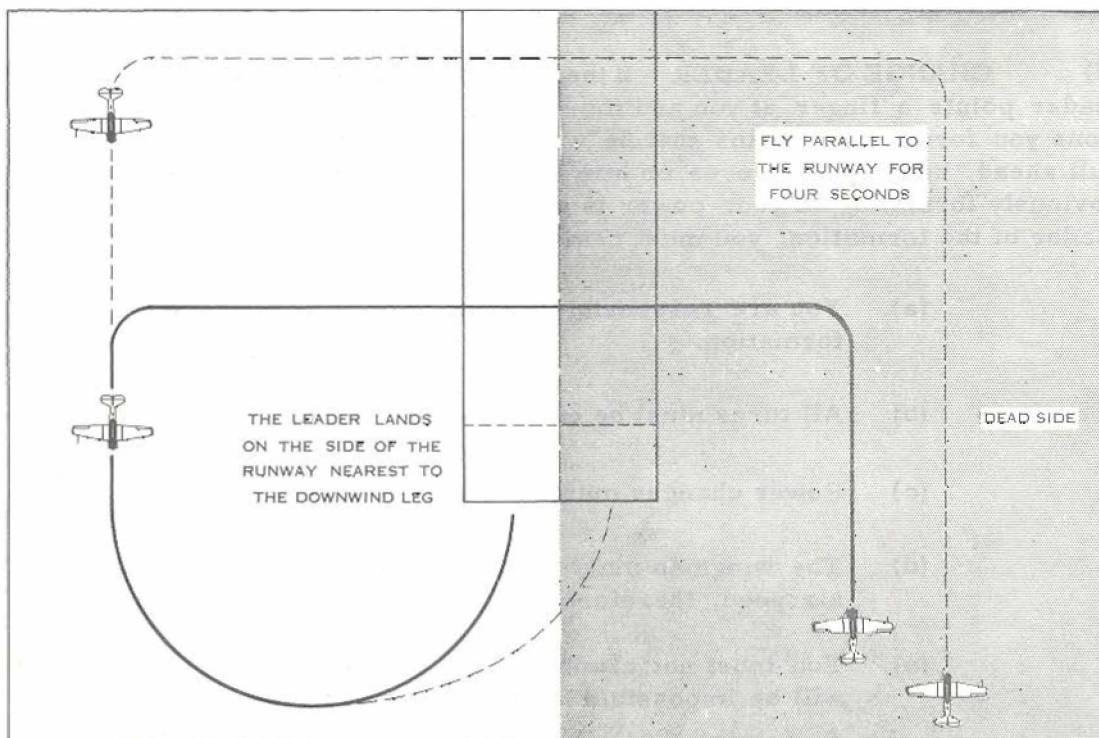

Figure 7: The Two-Plane Formation Circuit
(1) The entry to the traffic pattern for a formation is the same as for a single aircraft, in that the let-down to circuit height is made on the dead side. The remainder of the circuit is somewhat different, as shown in Figure 7.
(2) The formation enters the circuit area on the dead side in echelon left or echelon right, depending on the direction of circuit traffic. The leader's throttle setting should be 25" MP. At circuit altitude, opposite the